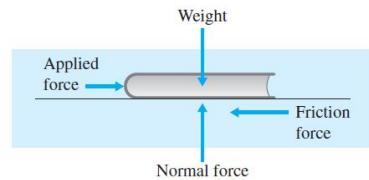

Figure 26: When friction force is equal to the push, the net external force is zero.
- Place a book on a table and start pushing the book gently (Figure 26).